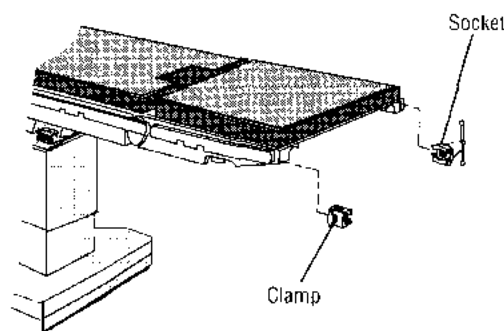

Figure 4-13. General Accessories Applied to Side Rails
1. To install, place clamp (or socket) on side rail and lock in position with knob (or handle) provided (see Figure 4-13).